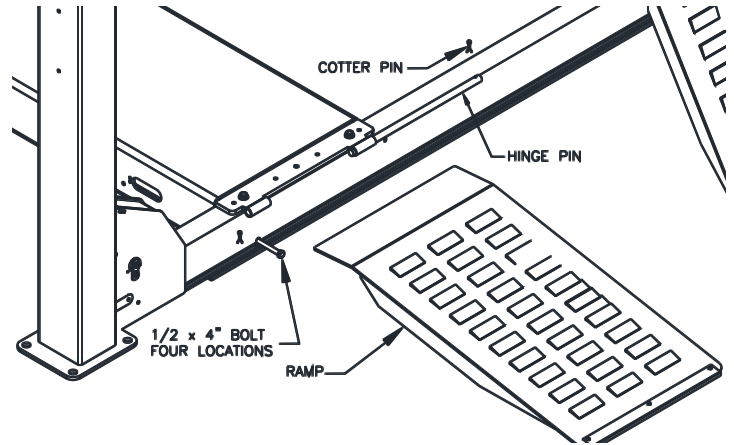

Fig 30 – Crossbeam Bolts and Ramp Install
- 84) Install the four 1/2-13 x 4" bolts through front and rear crossbeam and into the runways. Torque to 60-80 foot pounds. See **Fig 30**.
- 85) Assemble each Ramp using the hinge pins and cotter pins. See **Fig 30**.